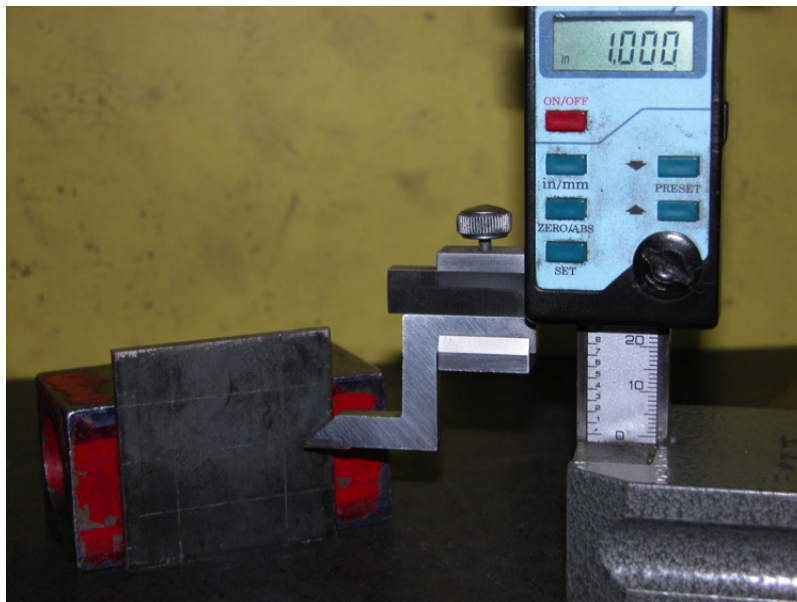

Figure 6—Scribing for #6
- f. For #6, using a hermaphrodite caliper (or other available layout tools) set at $\frac{1}{2}$ ", scribe parallel lines around all four sides of square. Scribe a line with a hermaphrodite caliper at 1" from one edge (Figure 6), then centre-punch all six intersections.